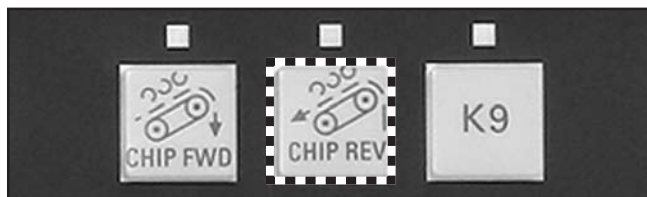

Figure 112. CHIP REV key on MCP.
4. Press CHIP REV key on MCP, as shown in **Figure 112**.